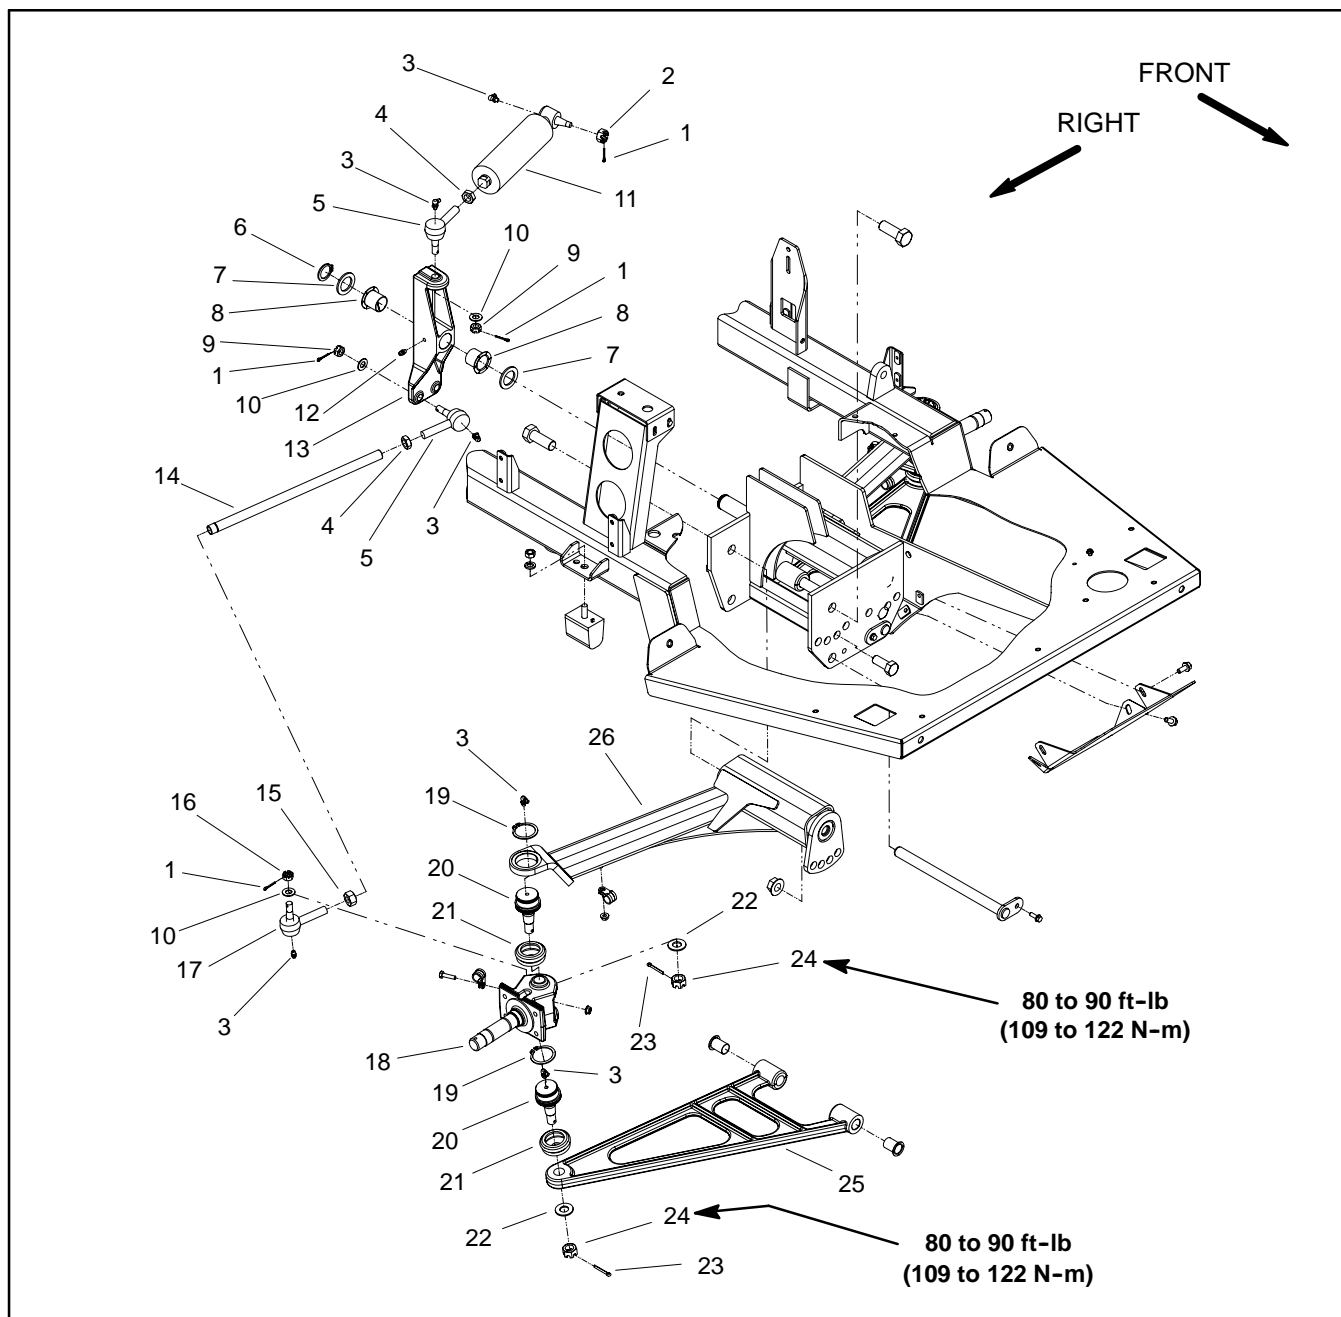

Figure 16
Disassembly (Fig. 16)
6. Disassemble steering components as needed using Figure 16 as a guide.
Assembly (Fig. 16)
1. Assemble steering components using Figure 16 as a guide.